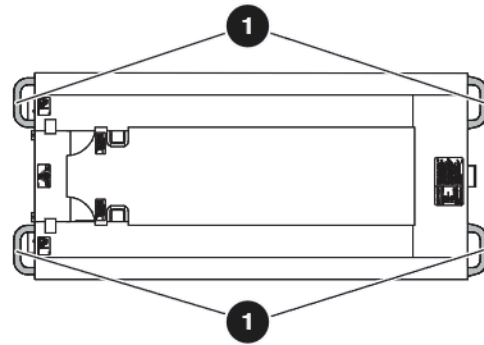
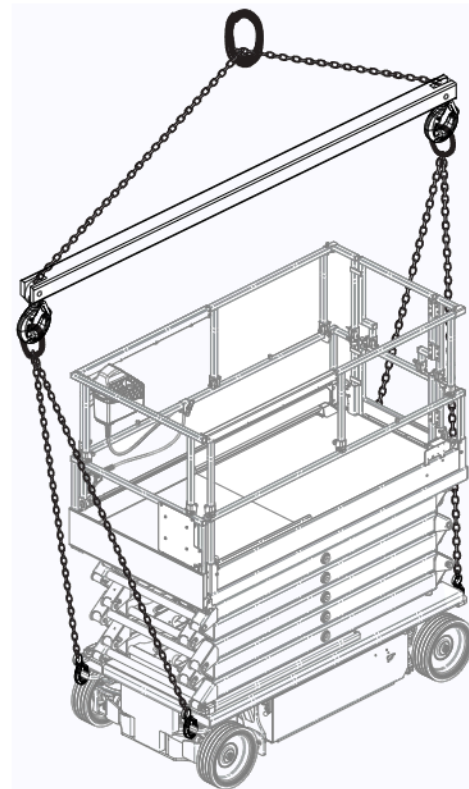
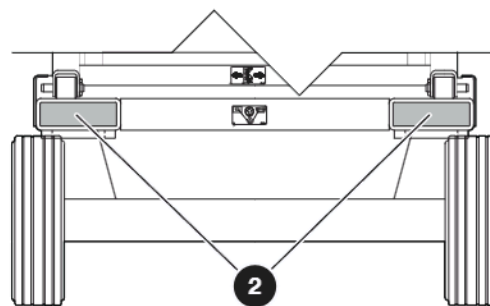

Figure 15 Lift and tie-down points
Figure 16 Appropriate method to hoist
Figure 17 Forklift pockets
- Attach the rigging to all **four lift points ①**, or lift with the forks in the designated **forklift pockets ②**. Refer to Figure 15, Figure 16, and Figure 17.
When you transport the MEWP, it must be attached to a truck or trailer deck. Use the available tie-down points ① to attach the MEWP. Refer to Figure 15. If you do not obey, there is a risk of death or serious injury.
- Tie-down the MEWP to the transport vehicle using the four **tie-down points** ①. Refer to Figure 15.